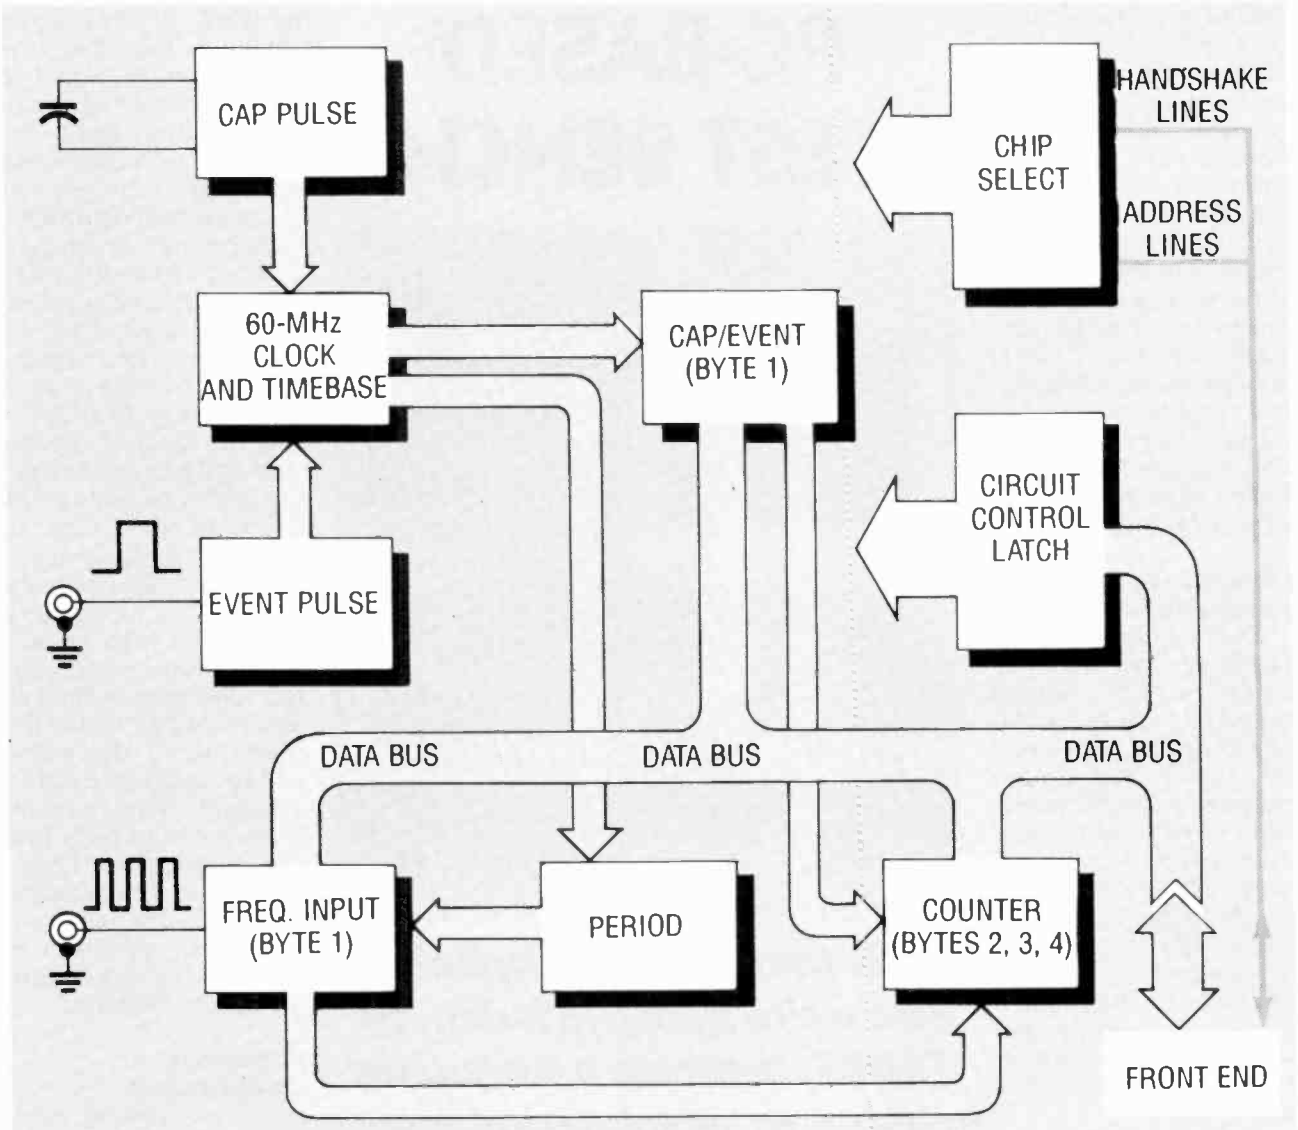

FIG. 1—T1001 BLOCK DIAGRAM. This peripheral contains a 100-MHz digital frequency counter, an event/period meter, and a precision capacitance meter.
1. *High-frequency (HF) allocations.* Figure 1 shows the additional frequency allocations made for high-frequency broadcasting. Four conditions were imposed on those allocations:
2. *Satellite sound broadcasting (BSS):* The issues here produced a genuine tug-of-war. The conference was divided from the outset on allocation of frequencies. Most Europeans wanted the more economical and propagationally suitable L-Band, with an allocation around 1.5 GHz. However, the U.S. was firmly opposed to that allocation because military aeronautical services are now operating in that band. The U.S. wanted the allocation in the S-Band, around 2.3 GHz. Other countries, notably China, Russia, Japan, India, and Pakistan, wanted the BSS allocation to be around 2.5 GHz. (See Fig. 1)
**3. High-definition television (HDTV).** This service ran into problems similar to those encountered in BSS, and there was no agreement on worldwide allocations. Instead, Europe, Africa, and Asia will use the 21.4- to 22-GHz band, and the Americas will use the 17.3- to 17.8-GHz band. Feeder links will be in the 18.1- to 18.4-GHz band in the Americas, and 24.25- to 25.25-GHz band elsewhere. (See Fig. 1) These bands will become available on April 1, 2007.
The Circuit Control Latch section (CCL) is made up of 16 control lines that are individually routed to every block depicted in Fig. 1. The purpose of the CCL section is to enable, disable, reset, start, and stop the major processes of the T1001. The Capacitor Pulse section, when started by the CCL section, produces a negative-going pulse whose period is proportional to the capacitor under test.